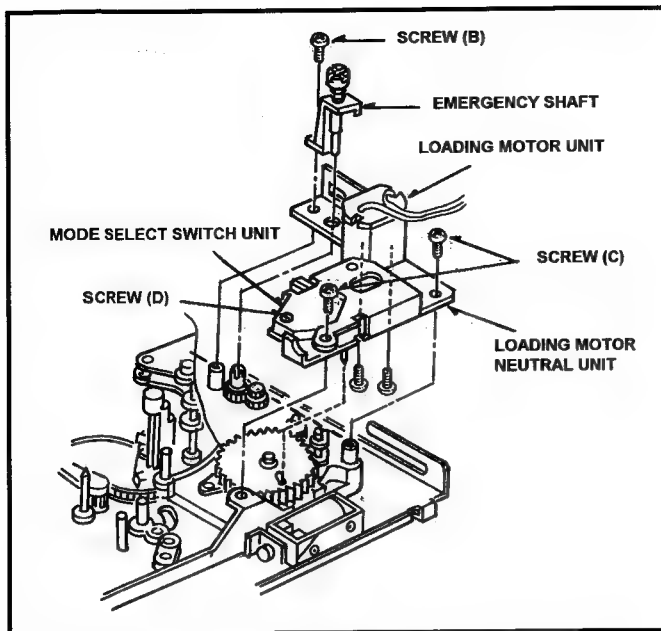
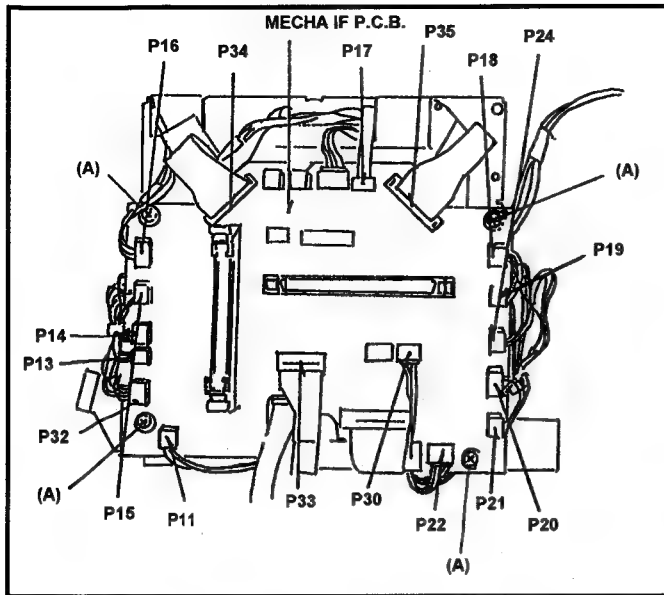
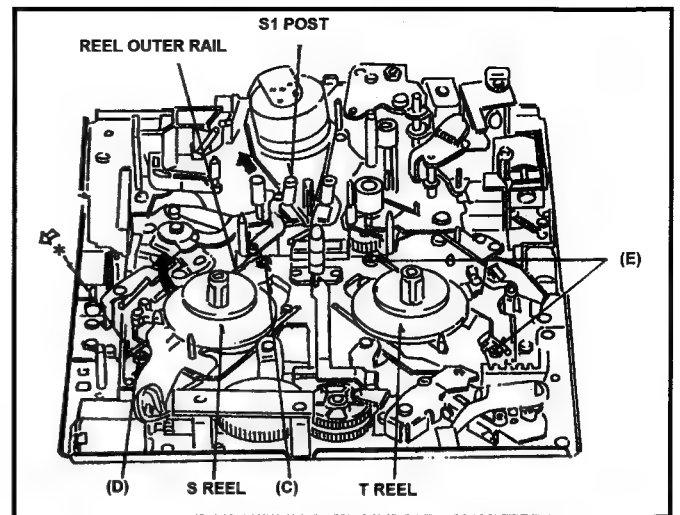

Fig.6-10-1 Removal of mode Select Switch Unit
Fig. 6-3-1 Connection of S & T Reel Rotor Unit
Fig.6-3-2 Removal of S & T Reel Rotor Unit
1. Install the new Loading Motor Unit to Loading Motor Neutral Unit by tightening 2 screws (D).
2. Install the Loading Motor Neutral Unit by tightening the 2 screws (C), then be careful that the pin of Mode SW Unit should be matched to groove position of main Cam Gear.
3. Install the Emergency Shaft by tightening the screw (B).
4. Install the Pinch Solenoid Unit and after installation it, Pinch Solenoid Position adjustment is required. (Refer to item 5-2).
5. Connect the connector P21 on the Mech I/F P.C.Board. as shown in Figure 6-3-1.
4. Disconnect the connector P22 on the Mech I/F P.C.Board as shown as Figure 6-3-1.
5. Remove the Pinch Solenoid Unit and Loading Motor Neutral Unit (Refer to item 6-9).
6. Remove the screw (D) and remove the Mode Select Switch Unit from Loading Motor Neutral Unit as shown in Figure 6-10-1.
4. Disconnect the connector P20 on the Mech I/F P.C.Board as shown in Figure 6-3-1.
4. Disconnect the connector P18 on the Mech I/F P.C.Board. as shown in Figure 6-3-1.
4. Disconnect the connector P15 on the Mech I/F P.C.Board as shown in Figure 6-3-1.
4. Disconnect the connector P34 and P35 on the Mech I/F P.C.Board as shown in Figure 6-3-1.
5. Move the S1 post to loading direction by manual ejecting method until the screw (C) can removing position.
8. Remove the 4 screws (C), (D) and (E) as shown in Figure 6-3-2.